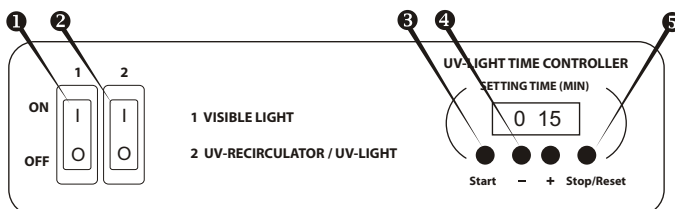

Fig.1. Control Panel
4.2.1. Turn ON **switch 2** (Fig.1/②). This automatically turns on the UV-recirculator with the hidden UV-lamp and activates the timer of open UV-lamp. The UV-recirculator will operate all the time until **switch 2** is turned OFF.
4.2.2. Use the timer keys + and - (Fig.1/④) to set the time (UV-LIGHT TIME CONTROLLER) of direct UV light exposure of the working place:
4.2.3. Press the **Start** key (Fig.1/Ⓢ), the open UV lamp automatically will be turned on and timer starts counting up the exposure time. Timer indicator shows actual time: until 1 hour - in minutes and seconds (min:sec), after 1 hour - in hours and minutes (hh:mm).
4.2.4. The open UV-lamp can be switched off by pressing **Stop/Reset** key (Fig.1/Ⓢ). The set time of exposure is preserved in the memory. The set time won't be preserved after the complete switching off the UV-cleaner box.
4.3.1. Turn ON **switch 1** (Fig.1/Ⓢ) for lighting of the working place (this turns ON the Luminescent (Visible light) lamp).